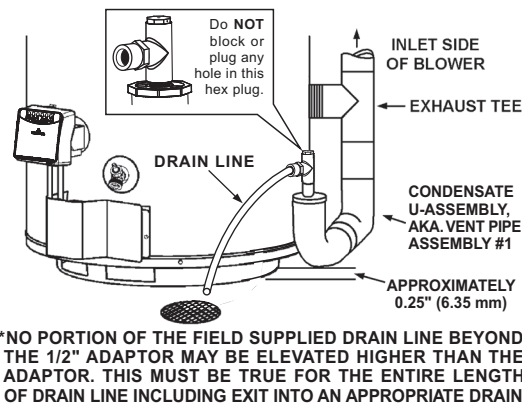
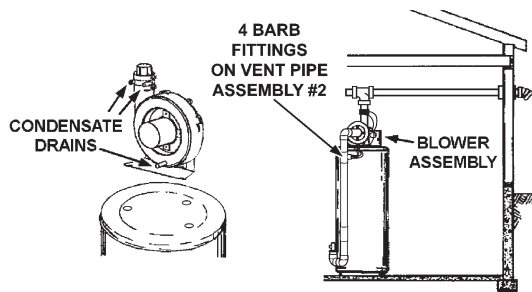

FIGURE 16.
FIGURE 17.
3. The blower discharge adapter is made to accept only straight sections of 2" pipe. To start, a minimum of 2 inches (5.1 cm) of 2" pipe must be attached to the blower discharge, see Figure 17.
4. There will be some installations where condensate will be formed in the horizontal runs of the vent system. This condensate will run into the condensate boot attached to the blower and out the fitting. The water heater is shipped with condensate hose that attaches to the fitting on the condensate boot. No other Tee or fitting is required. See Figures 17, 20 and 21.
This water heater is a condensing unit and requires a drain to be located in close proximity to allow condensate to drain safely. One hose from blower housing and two flexible hoses from blower outlet adaptor run to barb fittings on vent pipe assembly #2. Hose is clamped by rubber clips and flexible hoses by a clamp on jacket top cover. See Figure 17. Condensate drains from the unit at the exhaust tee located at the bottom of the unit, see figure 16. Condensate from this water heater is mildly acidic. Please note that some local codes require that condensate is treated by using a pH neutralizing filter prior to disposal.
NOTE: It is important that the field supplied drain lines beyond the 1/2" adaptor of vent pipe assembly #1 should be installed continuously tilted downward toward an appropriate drain. See Figure 16. If these instructions are not followed or if condensate drain line is blocked, water will spill from condensate trap. Do not block the holes in the hex plug on top of a small tee in vent pipe
Condensate is likely to form in the venting system attached to this water heater. The vent pipe should be sloped downward away from the blower assembly (not less than 1/8" (3.2 mm) nor greater than 1/2" (12.7 mm) per foot (30 cm) maximum). If the vent piping is vented level or sloped upwards away from the blower assembly, then adequate means for draining and disposing of the condensate needs to be made by the installer. Two 3/8" condensate hoses should be connected to the built in drain ports of blower outlet adaptor. The unused barb fitting on vent pipe assembly #2 should be plugged with one of the break-away plugs. See Figure 17.
3. Condensate drains from three locations on blower assembly. See Figure 17. One flexible hose runs from bottom of blower housing; two run from the ports of rubber connector at the outlet of blower. All these three condensate hoses are connected to barb fittings at vent pipe assembly #2. The hose from bottom of blower housing is clamped by two clamps and the two hoses from rubber connector are harnessed by another clamp. Make sure there is no kink or twist.